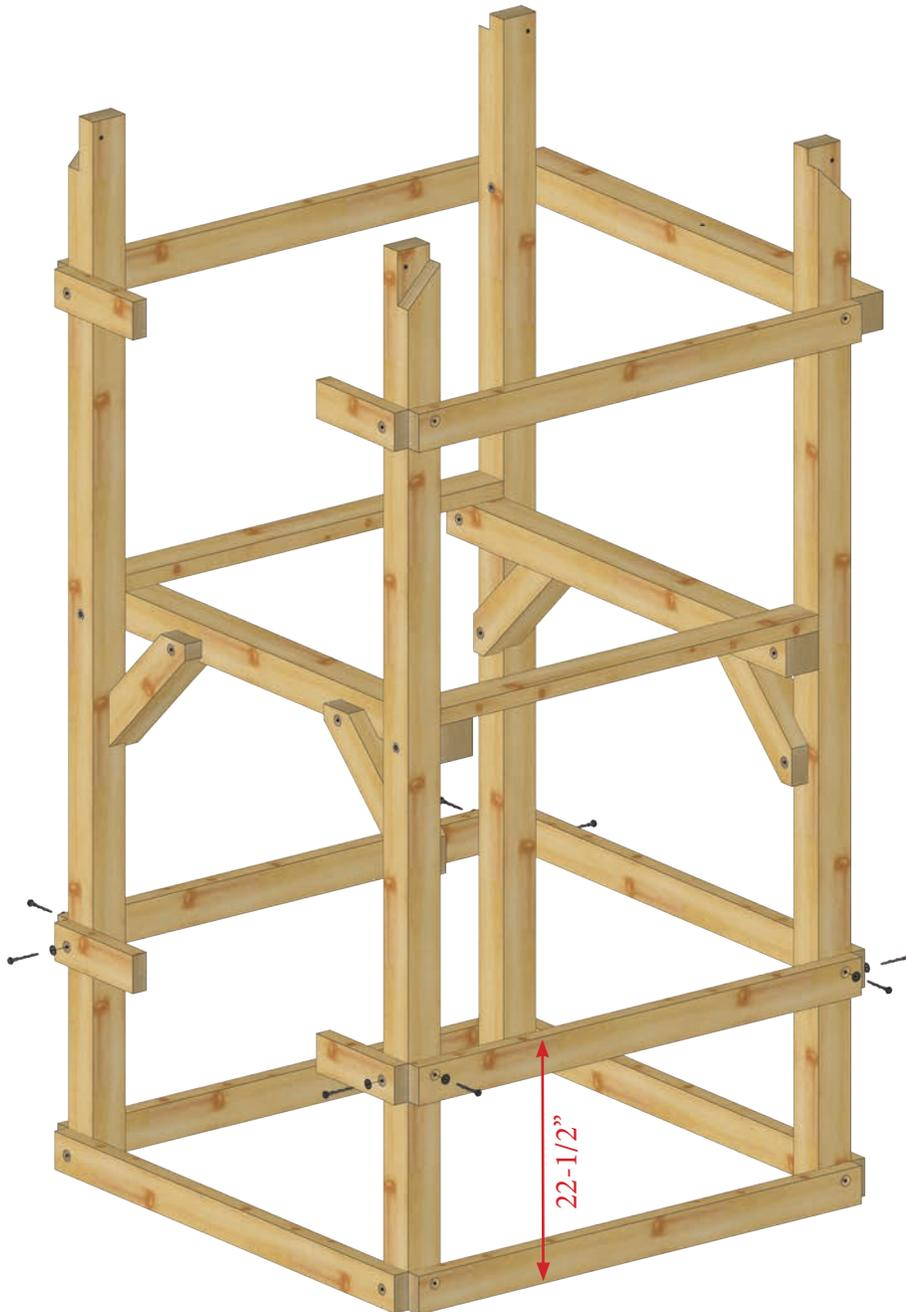

Figure 4.0
4.2 Fasten Top Panel Offset 48" (3) to Corner Post with 5/16 x 3 Lag Bolts with 5/16 washer as shown in Figure 4.0. Be sure to flip the orientation as you go to avoid the lags colliding in each corner post.
4.3 Fasten Top Panel Offset 12" to Corner Post with 5/16 x 3 Lag Bolts with 5/16 washer as shown in Figure 4.0.